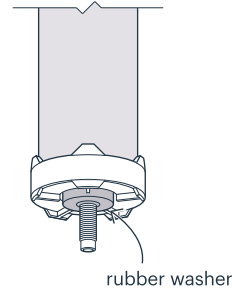

Figure 10
- 1 Thread a rubber washer onto the stem of each filter (Figure 10).